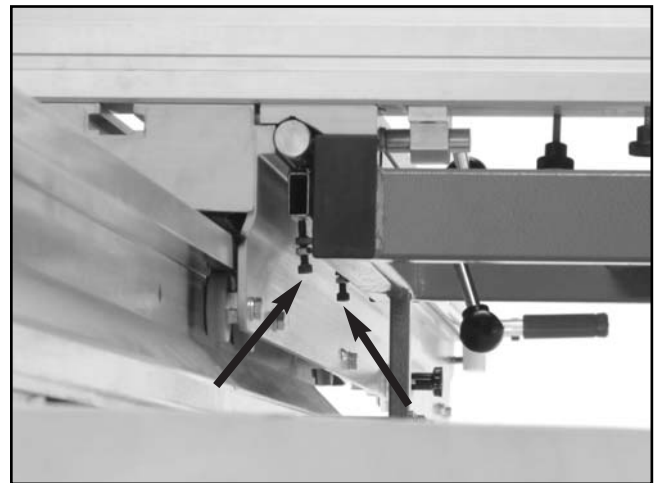

Figure 46. Cap screws used to secure the crosscut table clamping assembly.
3. One end of the crosscut table has a clamping assembly designed to attach to the bar on the sliding table. The two cap screws (**Figure 46**) located under the clamp need to be backed out far enough to allow the clamp to slip over the bar on the sliding table.